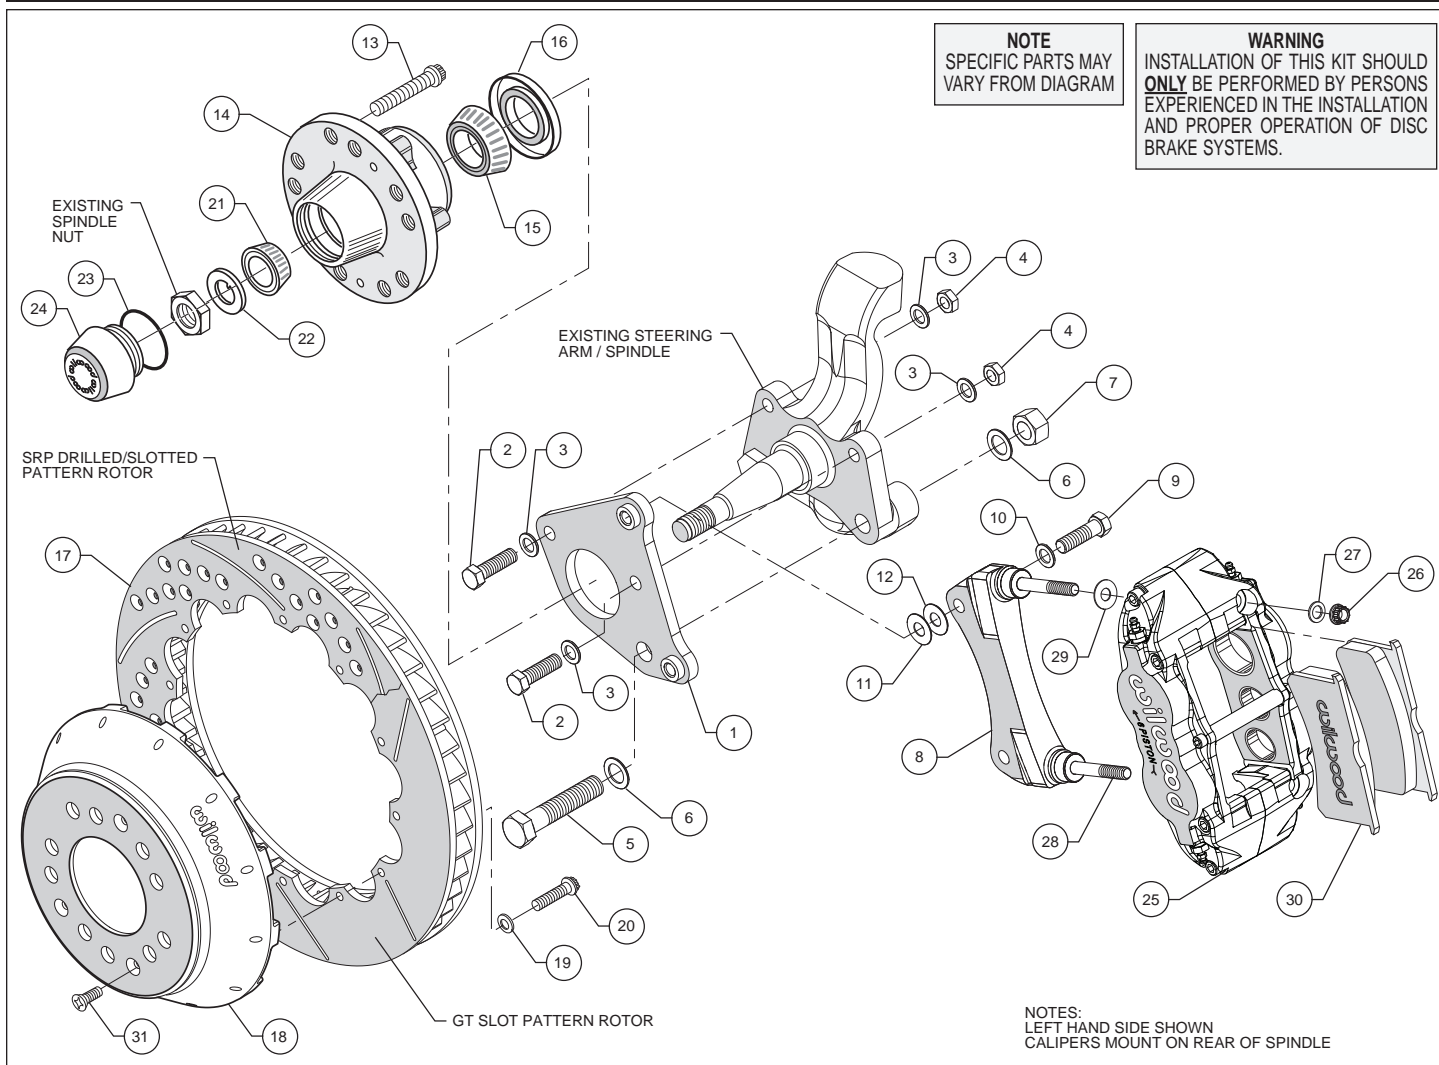
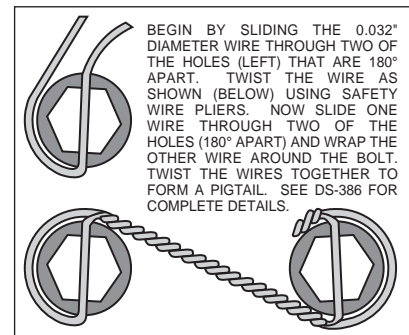

Figure 1. Typical Installation Configuration
Figure 3. Safety Wire Diagram
- Apply red *Loctite*® 271 to bolt threads (2 and 5) before assembly of the flat caliper bracket (1) to backing plate face of spindle. Install bolt (5) and washer (6) through caliper bracket (1), spindle face and the steering arm. Install another washer (6) and lock nut (7) on the rear side. Install two bolts (2) with washer (3) through caliper bracket (1), spindle face and the steering arm. Install another washer (3) and lock nut (4) on the rear side. Torque two bolts (2) to 47 ft-lb. Torque bolt (5) to 140 ft-lb. **NOTE:** Be sure the heads of the caliper bracket (1) insert nuts are facing outward toward the wheel. Reference Figure 1 as necessary.
- The radial caliper mounting bracket assembly (8) should be installed first with clean, dry threads on the mounting bolts. Install the bracket on the inboard side of the flat caliper mounting bracket (1) by sliding bolt (9) through flat washer (10), through the mounting hole in the bracket (8) and into the flat bracket (1) insert nuts. Initially place two shim washers (12) between the two brackets (1 and 8) (see figure 1). The radial bracket (8) must tighten squarely against the inboard side of the flat mounting bracket (1). Later, after the caliper, pad, and rotor alignment has been checked, and any necessary shims have been put in place, the mount bolts should be coated with red *Loctite*® 271 and torqued to 47 ft-lbs.
- Install five new wheel studs (13) into the hub (14). Torque to 77 ft-lb. **NOTE:** There are two five lug patterns in the hub (5 x 4.00 and 5 x 4.50). Make sure of the correct hole pattern for the correct wheel application before installing studs into hub.
- Pack the large inner bearing cone (16) with high temperature disc brake bearing grease (available from your local auto parts store) and install into the backside of the hub (14).
- Install the grease seal (16) by pressing into the backside of the hub (14).
- With the larger I.D. side of the rotor (17) facing away from the hat (18), bolt rotor (17) to hat (18) through the backside of the rotor using washers (19) and bolts (20). Using an alternating sequence, apply red *Loctite*® 271 to the threads and torque bolts to 155 in-lb. For an added measure of security, the bolts may be safety wired using standard 0.032 inch diameter stainless steel safety wire as shown in Figure 3. Please refer to Wilwood's data sheet DS-386 (available at www.wilwood.com/Pdf/DataSheets/ds386.pdf) for complete safety wire installation instructions.
- Pack the small outer bearing cone (21) with high temperature disc brake bearing grease. Lightly coat the spindle bearing surfaces with bearing grease. Slide the hub assembly (13, 14, 15 and 16) with outer bearing cone (21) onto the spindle. Secure using spindle washer (22), existing adjusting nut and nut locking device.
- Install the dust cap (24) onto the hub (23). Friction created by the o-ring (23) on the dust cap (24) keeps it from unscrewing. The O.D. of the existing spindle washer may be larger than the I.D. of the dust cap (24) which may allow the washer to contact the dust cap (24). Use the spindle washer (22) supplied with the kit instead of the stock washer.
- **NOTE:** *This kit contains distinct right and left hand calipers that must be mounted in a specific direction, as described below.* Lubricate the caliper mounting studs (28) with lightweight oil. Initially place two .035" thick shims (29) on each stud as shown in Figure 1. Mount the caliper (25) onto the bracket (8) using lock nuts (26) and washers (27), Figure 1. Ensure that the caliper is mounted so that the largest pistons are at the rotor exit end of the caliper, in relation to the direction of rotor rotation. Temporarily tighten the lock nuts and view the rotor through the top opening of the caliper. The rotor should be centered in the caliper. If not, adjust by adding or subtracting shims (11 and/or 12) between the radial bracket and the spindle bracket. Always use the same amount of shims on each of the two mounting bolts.
- Remove the caliper center bridge pad retainer bolt, nut, and tube from the caliper. Slide the brake pads (30) into place. They should install easily without interference. Check that the outside radius of the brake pad is flush with the outside diameter of the rotor face. Add or subtract shims (29) between the caliper and radial mounting bracket to gain the proper alignment. Reinstall the center bridge pad retainer tube, bolt, and locknut. The locknut should be snug without play in the bolt or tube. Be cautious not to over tighten.
- Once all clearances have been checked, remove the wheel, caliper, hat, and rotor from the spindle and hub. Secure the radial caliper mounting bracket (8) to the flat caliper mounting bracket (1) using red *Loctite*® 271. Torque the bolts to 47 ft-lbs. Reinstall the hat and rotor assembly and again use several lug nuts to hold it in place. Reinstall the caliper, torque the caliper nuts (26) to 30 ft-lbs.
- Install three flat head socket screws (31) through the small holes in the hat (18) and torque to 85 **in-lb**.